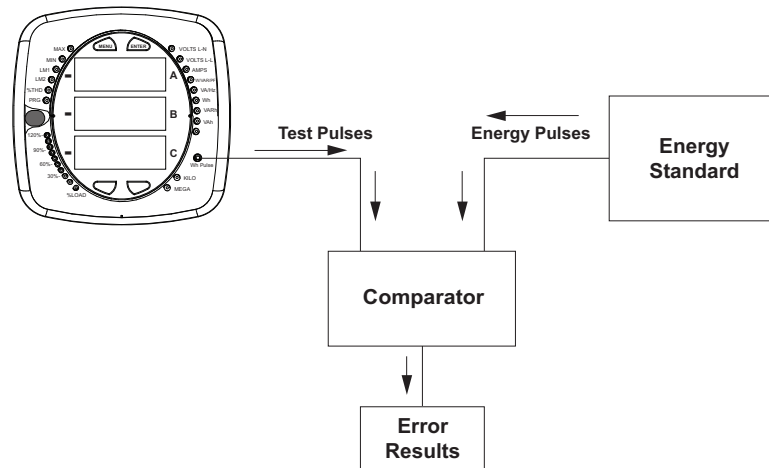

Figure 6.5: Using the Watt Hour Test Pulse
- Refer to Figure 6.5 for an example of how this process works.